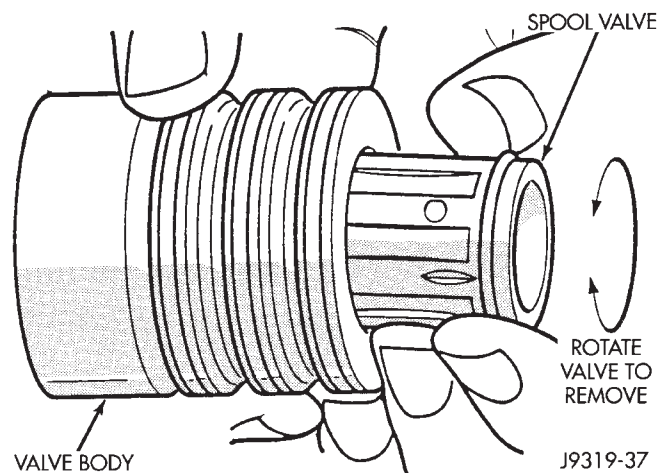

Fig. 15 Spool Valve
(6) Remove spool valve from valve body by pulling and rotating the spool valve from the valve body (Fig. 15).